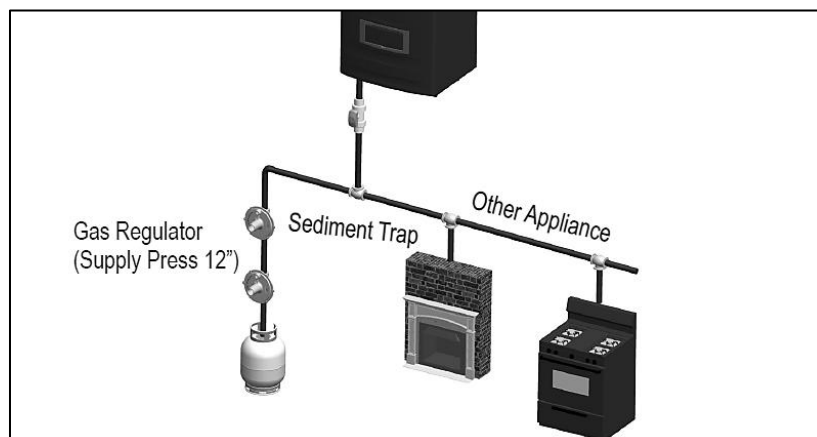

**Figure 15 – Gas Line With Shut-Off Valve Detail**
4. A manual gas shut-off valve should be installed in the gas supply line close to the water heater. See Figure 15 for detail.